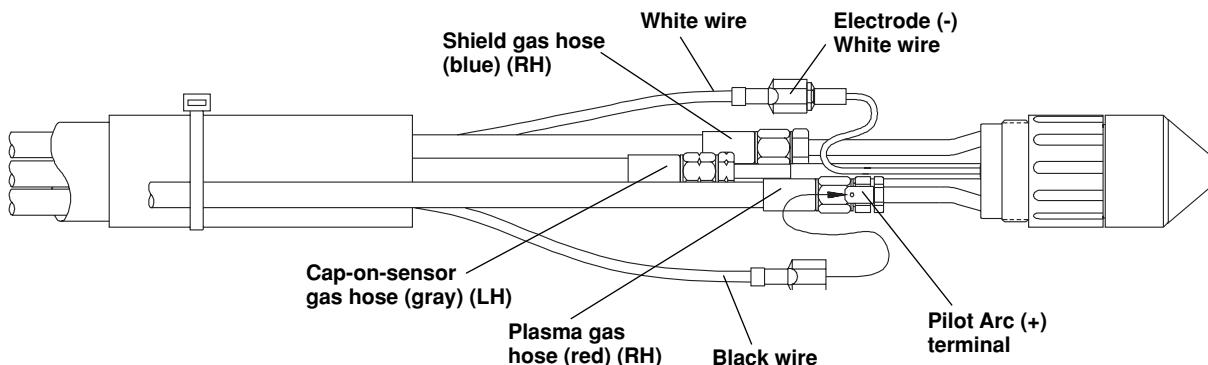

Figure 3-6 Lead Set Connections at Torch
- ③ Connect lead set with plasma gas valve subassembly to torch (Fig. 3-6).
1. Route torch lead set to torch and make the following connections (Fig. 3-6):